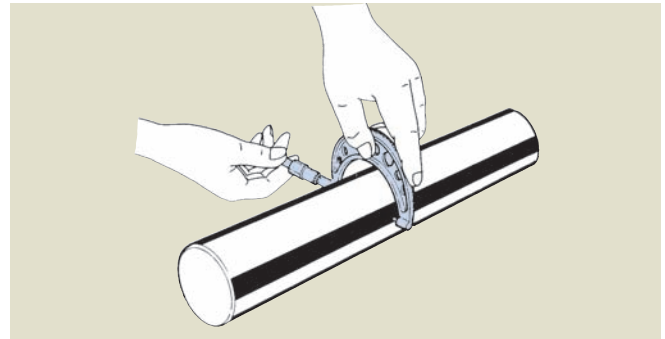

Fig. 3
- (2) Verify the part number of the bearings and adapters being installed, and check that the adapter and dimensions are suitable for the shaft diameter.
- (3) Clean the shafts that the adapters will be installed on. Check that the shaft diameter measurements are within the specified appropriate tolerance (see Fig. 3).
- (4) Adapters have rust inhibitor applied to the surface. After removing the adapters from their packaging, wipe clean any oil using a clean cloth soaked in kerosene.